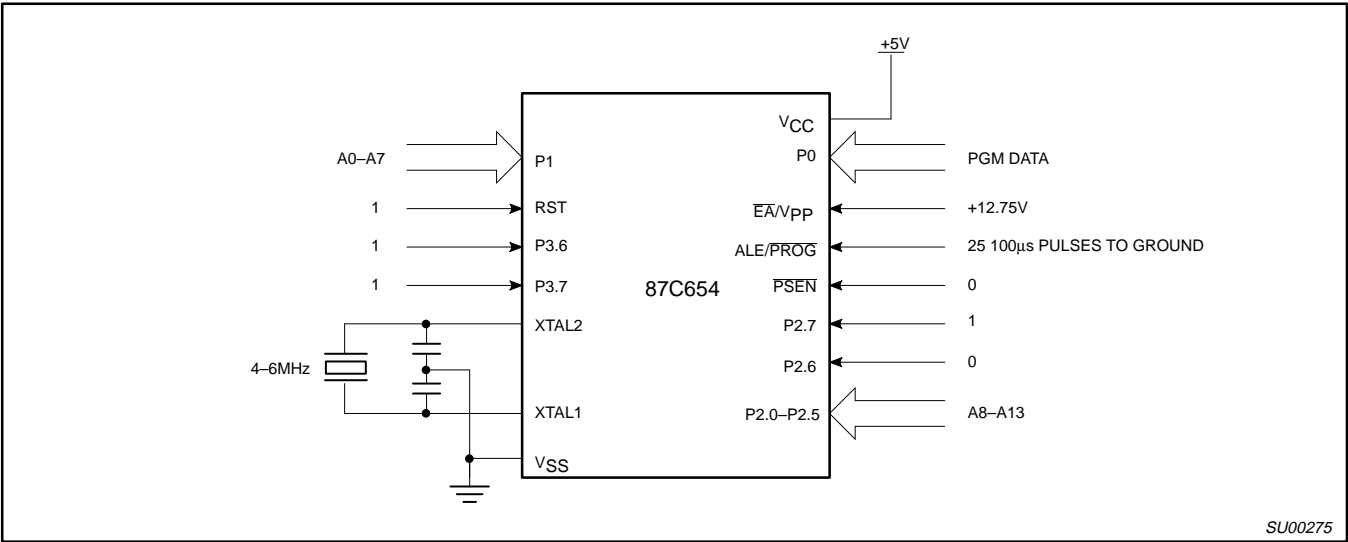
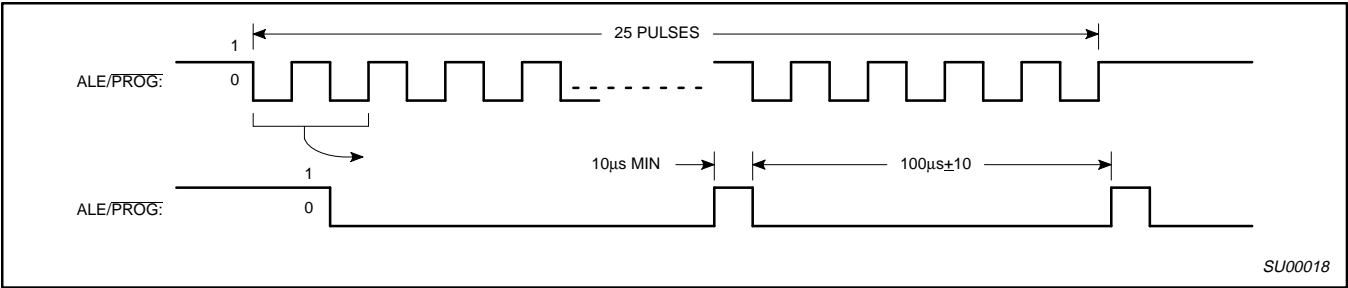
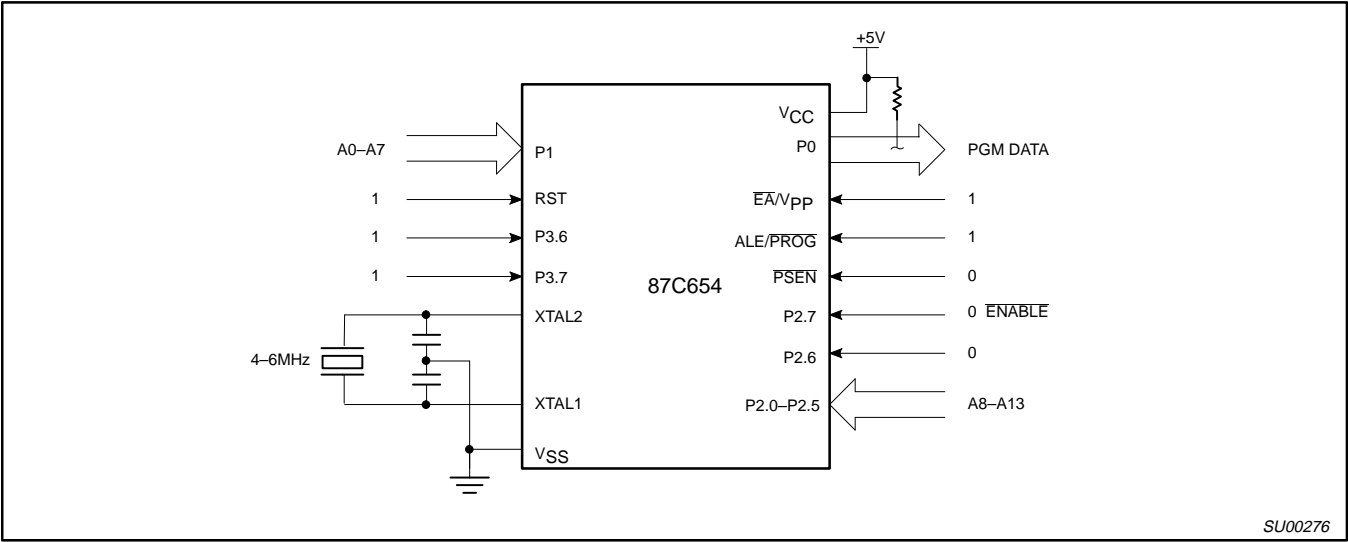

Figure 12. Programming Configuration
Figure 13. PROG Waveform
Figure 14. Program Verification
Table 4 shows the logic levels for reading the signature byte, and for programming the program memory, the encryption table, and the lock bits. The circuit configuration and waveforms for quick-pulse programming are shown in Figures 12 and 13. Figure 14 shows the circuit configuration for normal program memory verification.
The setup for microcontroller quick-pulse programming is shown in Figure 12. Note that the 87C654 is running with a 4 to 6MHz oscillator. The reason the oscillator needs to be running is that the device is executing internal address and program data transfers.
The address of the EPROM location to be programmed is applied to ports 1 and 2, as shown in Figure 12. The code byte to be programmed into that location is applied to port 0. RST, PSEN and pins of ports 2 and 3 specified in Table 4 are held at the 'Program Code Data' levels indicated in Table 4. The ALE/PROG is pulsed low 25 times as shown in Figure 13.
If lock bit 2 has not been programmed, the on-chip program memory can be read out for program verification. The address of the program memory locations to be read is applied to ports 1 and 2 as shown in Figure 14. The other pins are held at the 'Verify Code Data' levels indicated in Table 4. The contents of the address location will be emitted on port 0. External pull-ups are required on port 0 for this operation.
* FOR PROGRAMMING VERIFICATION SEE FIGURE 12.
FOR VERIFICATION CONDITIONS SEE FIGURE 14.